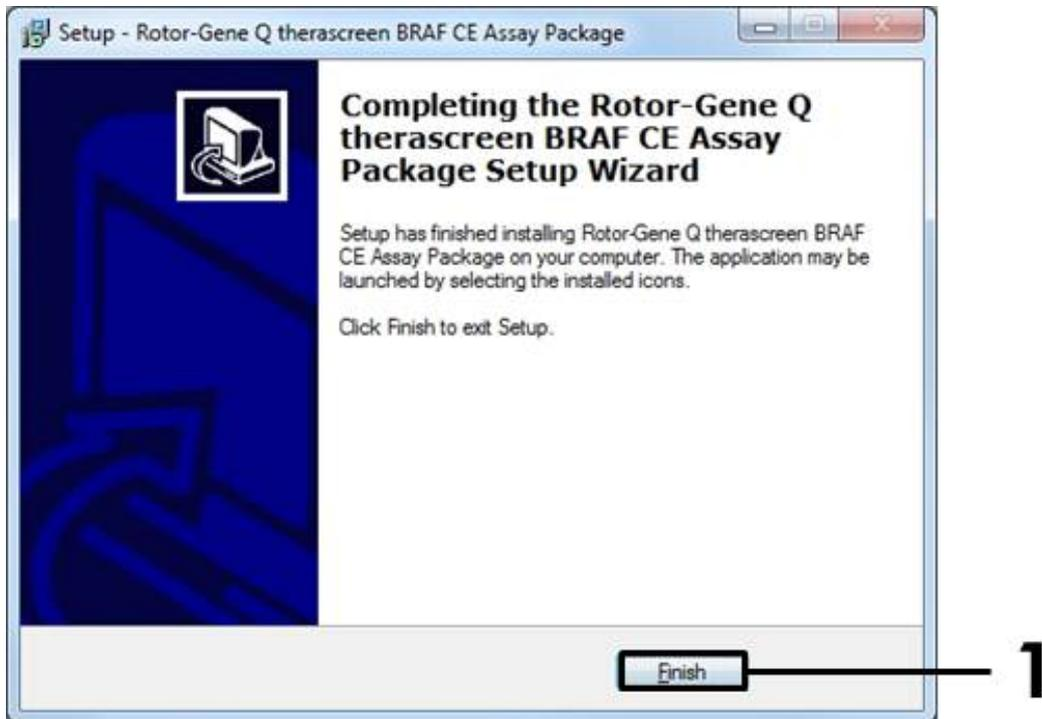

Figure 43. Completing the setup wizard. (1 = “Finish” button).
6. The template setup will start automatically and when this is complete, a final “Setup” dialog box will appear. Click “Finish” to exit the setup wizard (Figure 43).